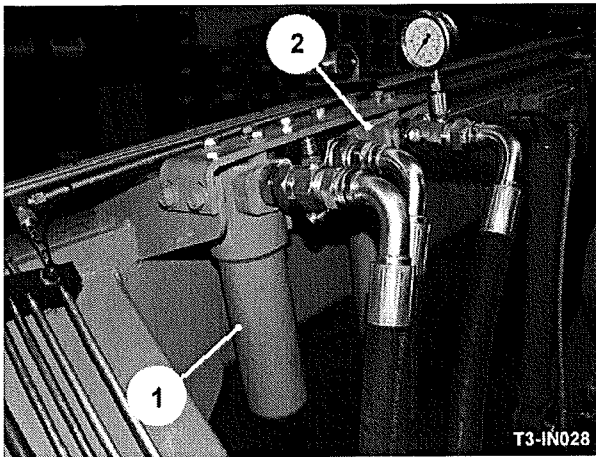
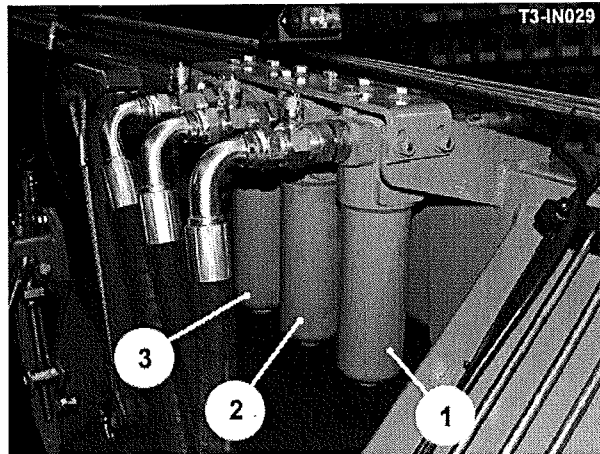

Fig 36
Fig 37
The oil reservoir drain plug (item 1, fig 36) is located underneath the centre of the front beam.
The pressure filter elements (item 1 & 2, fig 36 & item 1,2 & 3, fig 37) should be replaced after the first 50 hours running time and then every 500 hours or annually thereafter.
2. In the case of the auxiliary circuit pressure filter (item 1, fig 36), operate the spool valve feeding the harvester to release any residual pressure and then disconnect the feed hose from the tractor.